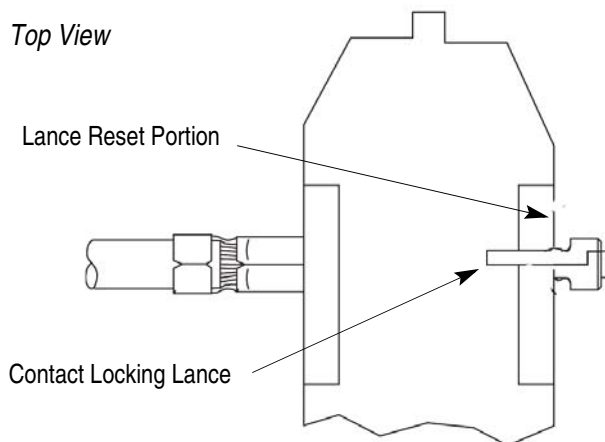

Figure 3
**3.2. Locking Lance Reset** (See Figure 3)